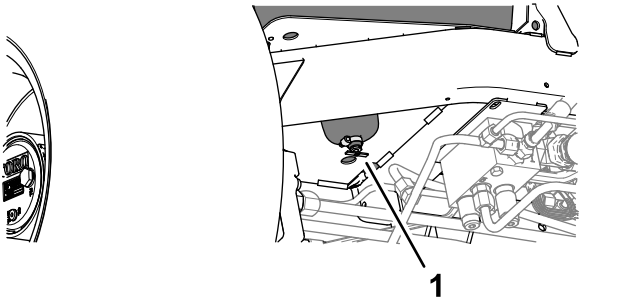

Figure 131
2. Align a drain container under the drain valve at the bottom of the fuel tank (Figure 131).